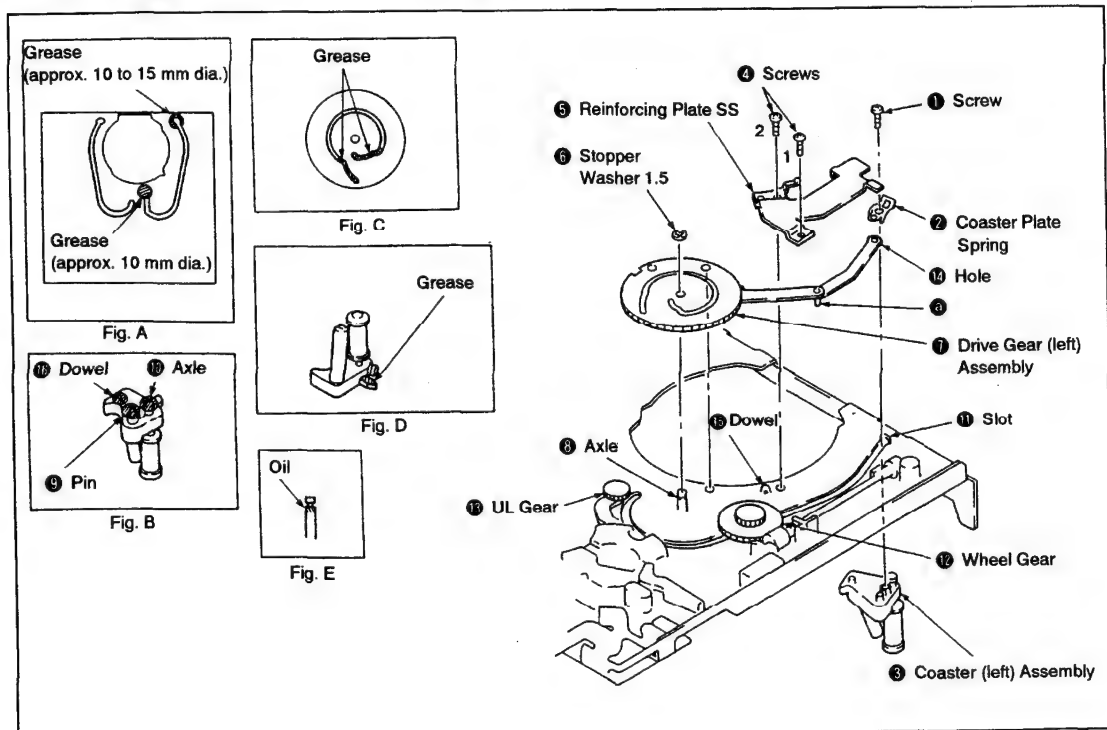

Fig. 3-20.
1. Removal (See Fig. 3-20.)
2. Installation (See Fig. 3-20.)